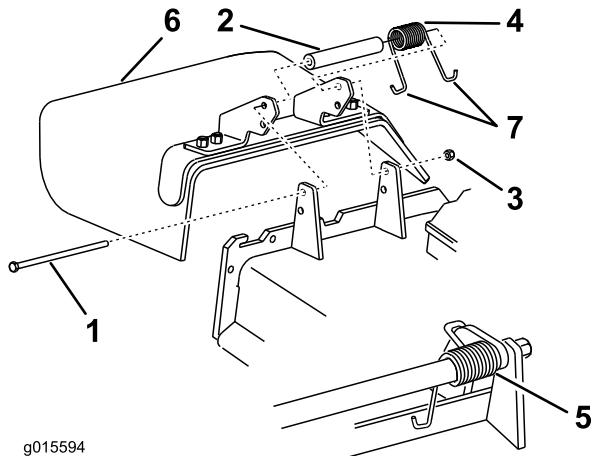

Figure 100
1. Remove the locknut, bolt, spring and spacer holding the deflector to the pivot brackets (Figure 100). Remove damaged or worn grass deflector.
Note: Make sure one J end of spring is installed behind deck edge before installing the bolt as shown in Figure 100.
3. Install bolt and nut. Place one J hook end of spring around grass deflector (Figure 100).